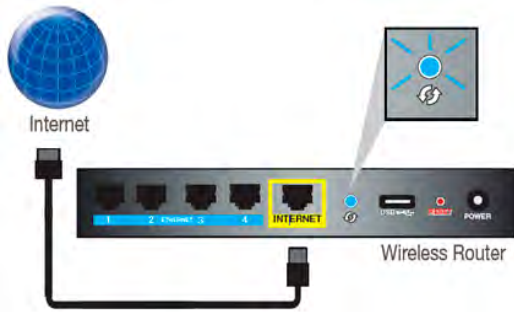

Figure 9 - Press WPS Button on Router
1. On the wireless router, press the WPS (WiFi Protected Setup) button. An indicator light on the router will begin blinking. See figure 9 (WPS button location may vary).